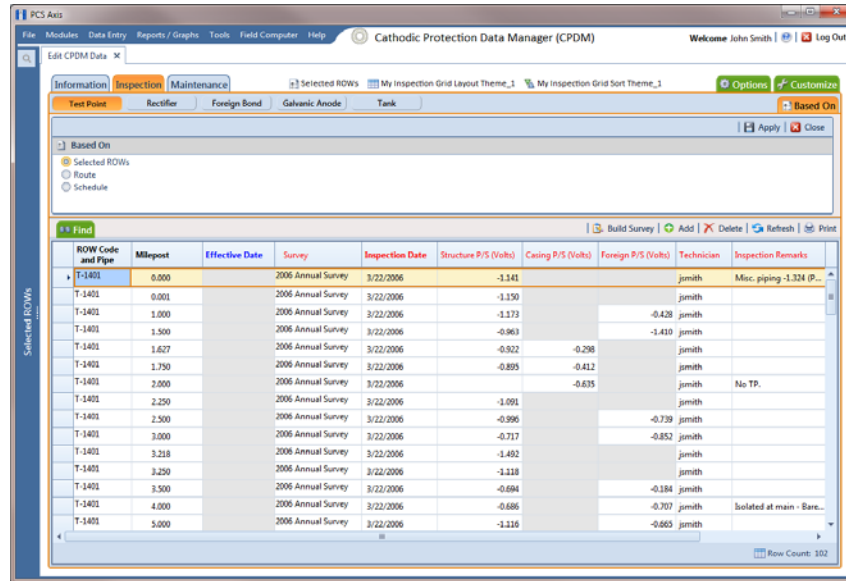

Figure 7-31. Based On Selected ROWs
- a Click the **Based On** tab  to open the based on panel and then complete the following steps (Figure 7-31, page 240):